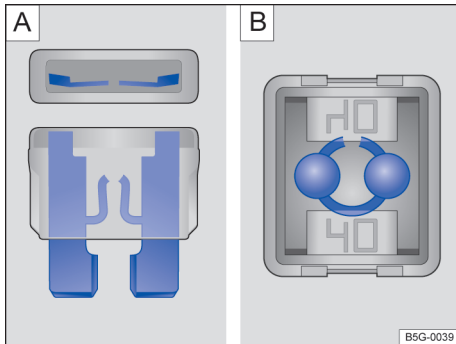

Fig. 126 Blown fuse: **A** a flat blade fuse, **B** a cartridge fuse
- Flat blade fuse (ATO[®], MINI[®], MAXI[®] / MAXI+[®]) can be identified by looking at the fused state of the metal on the top and side of the transparent housing in which it is encased. → Fig. 126**A**
- Cartridge fuse (JCASE[®]) can be viewed through the top of the transparent housing to see if it is blown. → Fig. 126**B**